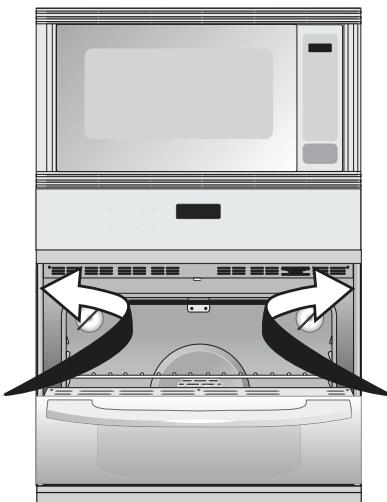

Figure 6
- The mounting holes in the side trims may be used as a template to locate the appliance mounting screw holes (see figure 6).